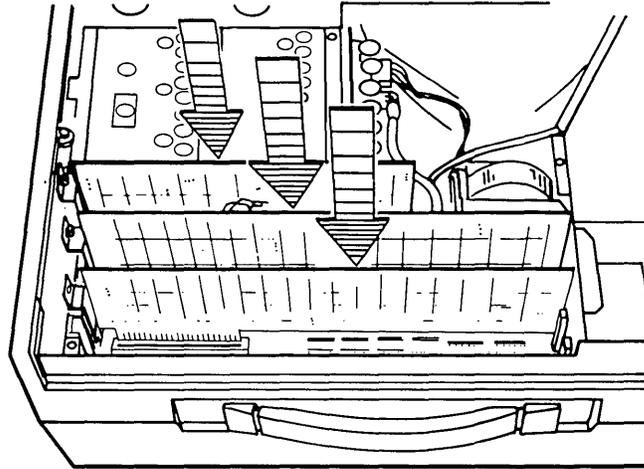

Figure 11-27. Replacing the Adapter Boards.
11. Carefully replace the adapter boards by inserting them into the processor board (see Figure 11-27).